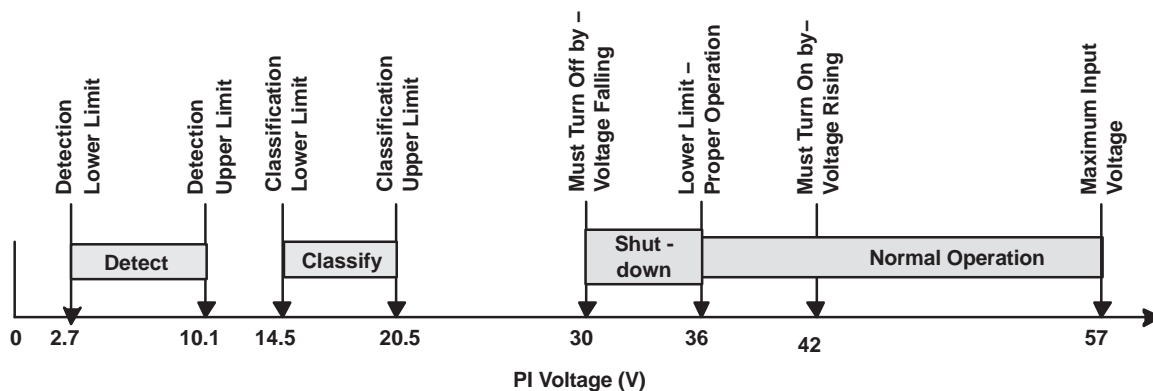
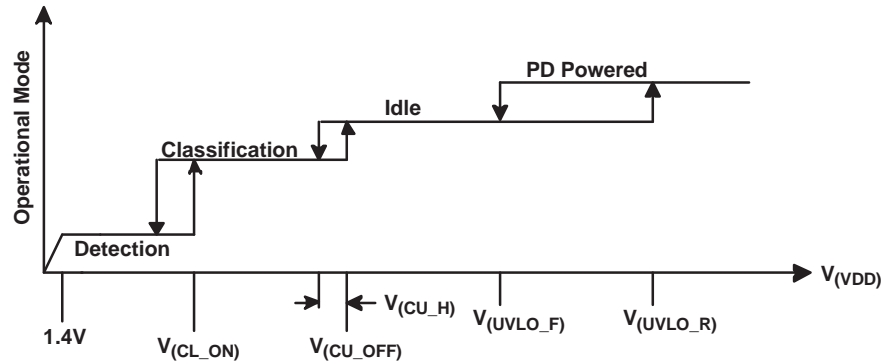

Figure 12. IEEE 802.3 PD Voltage Limits
Figure 13. Threshold Voltages
The IEEE 802.3af specification defines a process for safely providing power over an ethernet cable when a capable device is connected, and then removing power if it is disconnected. The process proceeds through three operational states: detection, classification, and operation. An unterminated cable is not powered. The PSE periodically probes the cable with low voltage, looking for a 25 k Ω signature; this is referred to as detection. The low power levels used during detection are unlikely to cause damage to devices not designed for PoE. If a valid powered device (PD) signature is present during detection, then the PSE may optionally inquire about the amount of power the PD requires; this is referred to as classification. The PD may return a default full-power signature, or one of four other defined choices. In a high-power system, class may not be required, or the levels may be redefined to suit that particular system. The PSE may use the class power to determine if it has adequate power to operate this device, and later to determine if a device is using more power than it requested. At this point in the process, the PSE may choose to power the PD. The PSE output is protected against shorts and overloads when the PD is powered. The maintain power signature (MPS) is presented by the powered PD to assure the PSE that it is present. The MPS is either a minimum dc current, a maximum ac impedance, or both. When the MPS disappears, the PSE removes power and returns to its initial state. Figure 12 shows the operational states as a function of PD input voltage range as defined in IEEE 802.3af.
In order to implement the defined PoE functions shown in Figure 12, the TPS2376-H has a number of internal comparators with hysteresis for stable switching between the various states. Figure 13 relates the parameters in the Electrical Characteristics section to the PoE states. The mode labeled *idle* between classification and PD powered implies that the DET, CLASS, PG, and RTN pins are all high impedance.
The classification process applies a voltage between 14.5 V and 20.5 V, for a maximum of 75 ms, to the input of the PD, which in turn draws a fixed current set by $R_{(CLASS)}$. An 802.3af PSE measures the PD current to determine which of the five available classes (Table 1) that the PD is signaling. The total current drawn from the PSE during classification is the sum of bias currents and current through $R_{(CLASS)}$. The TPS2376-H disconnects $R_{(CLASS)}$ at voltages above the classification range to avoid excessive power dissipation (Figure 12 and Figure 13).
The TPS2376-H incorporates an undervoltage lockout (UVLO) circuit that monitors line voltage to determine when to apply power to the downstream load and allow the PD to power up. The IEEE 802.3af specification dictates a maximum PD turn on voltage of 42 V and a minimum turn-off voltage of 30 V (Figure 13). The UVLO pin provides the flexibility to adjust the turn on and turn off to the IEEE 802.3af limits, or a custom set. Design the turn-on for 39.5 V if a design which uses the IEEE 802.3af limits is desired.